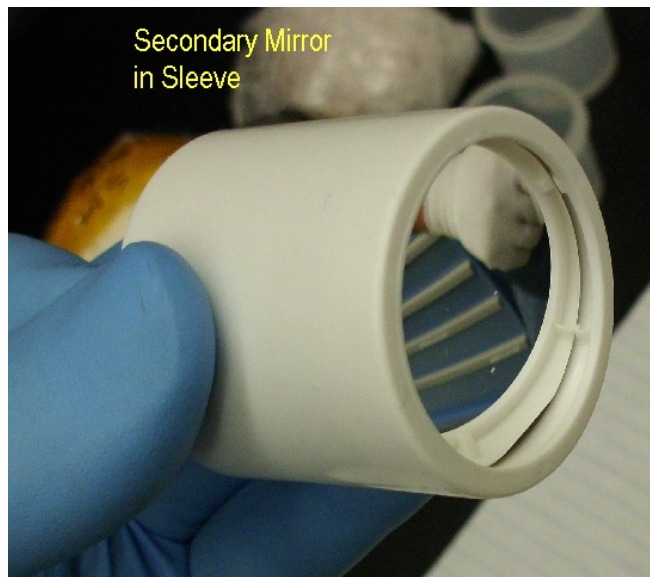

Figure 2 .
- Insert the secondary mirror inside the white plastic cylinder sleeve from the coated side as shown in **figure 2**.